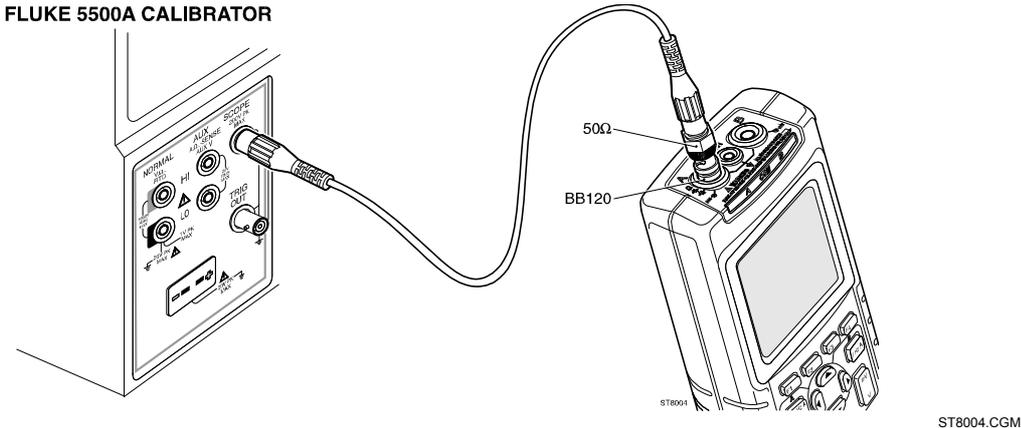

Figure 5-4. 5500A Scope Output to Input A
2. Connect the test tool to the 5500A as shown in Figure 5-4.
2. Connect the test tool to the 5500A as for the previous calibration (Figure 5-4).